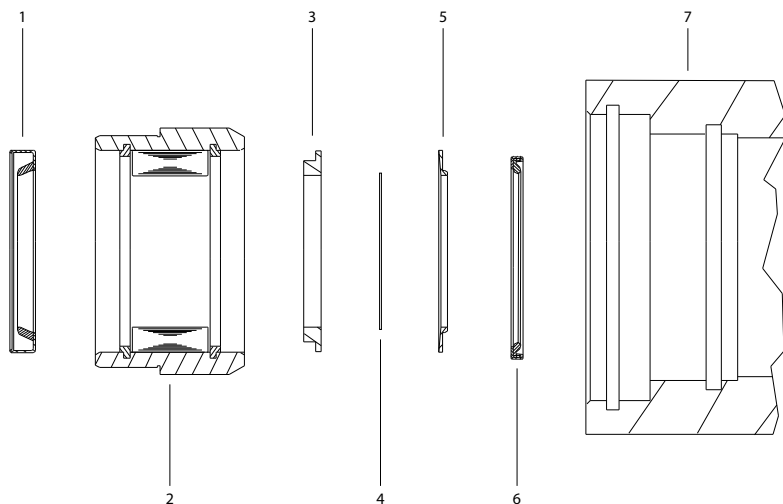

Figure 1: RE 530 R Mount Shaft Stack-up
3. Install high pressure seal (2) into groove in pilot of housing (14). Place shaft (26) on a clean, flat surface with output end facing up. Place thrust washer (12), thrust bearing (13) and second thrust washer (12) over shaft (26). Being careful not to cut seal on keyway, place shaft seal (5) over shaft (26) making sure that lip on seal faces down (see figure 1). Repeat process for backup seal (4) making sure that lip faces down. Place metal backup shim (3a) over shaft. If metal backup ring (3) came out of bearing (11), place over shaft (26) making sure that large O.D. side faces down. Lightly grease bearing (11) if needed. Place bearing (11) over shaft making sure that the large O.D. side faces down. Using an arbor press, carefully press bearing (11) down to press seal assembly (3-5) into bearing (11).
4. Place shaft (26) assembly into housing (14). Install dust seal (1) over shaft (26) with lip facing up (see RE 530 R Mount Shaft Stack-up) and carefully press the seal down to seat it in the bearing (11). Place bearing spacer (10) over shaft (26) and push down until snap ring groove is visible. Install retaining snap ring (9) into groove in housing pilot (14). (Note: it may be necessary to lightly tap the retaining snap ring (9) and bearing spacer (10) to allow the retaining snap ring (9) to seat properly.) Replace all shaft related components (i.e. keys, wire rings, nuts).